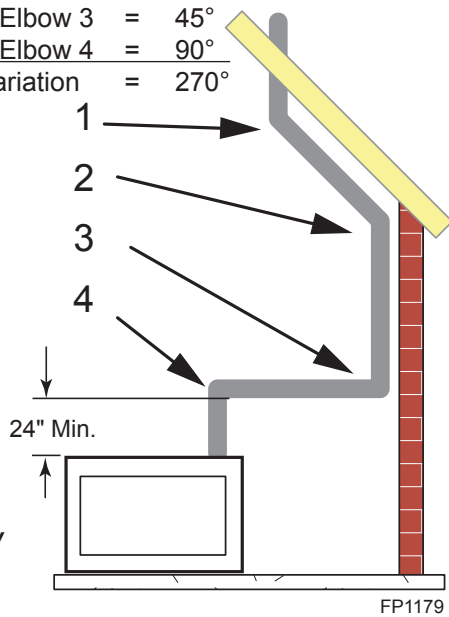

Figure 23 - Maximum Elbow Usage
- Two sets of 45°elbows offsets may be used within the vertical sections. From 0 to a maximum of 8' (2.5 m) of vent pipe can be used between elbows. *Figure 23*
- The maximum angular variation allowed in the system is 270°. *Figure 23*
NOTE: Pay special attention to these installation instructions for required clearances (air space) to combustibles when passing through ceilings, walls, roofs, enclosures, attic rafters, etc. Do not pack air spaces with insulation. Also note maximum vertical rise of the venting system and any maximum horizontal offset limitations. Offsets must fall within the parameters shown in Figures 23 and 24.